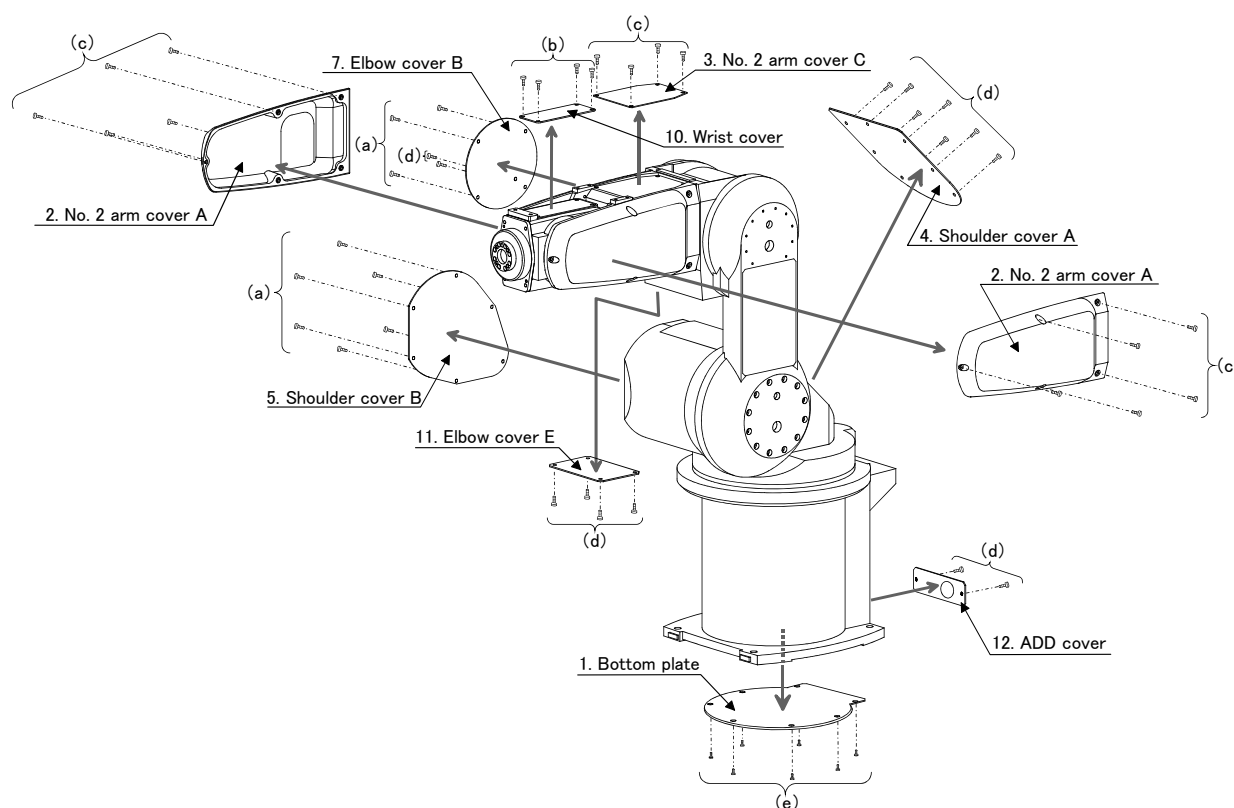
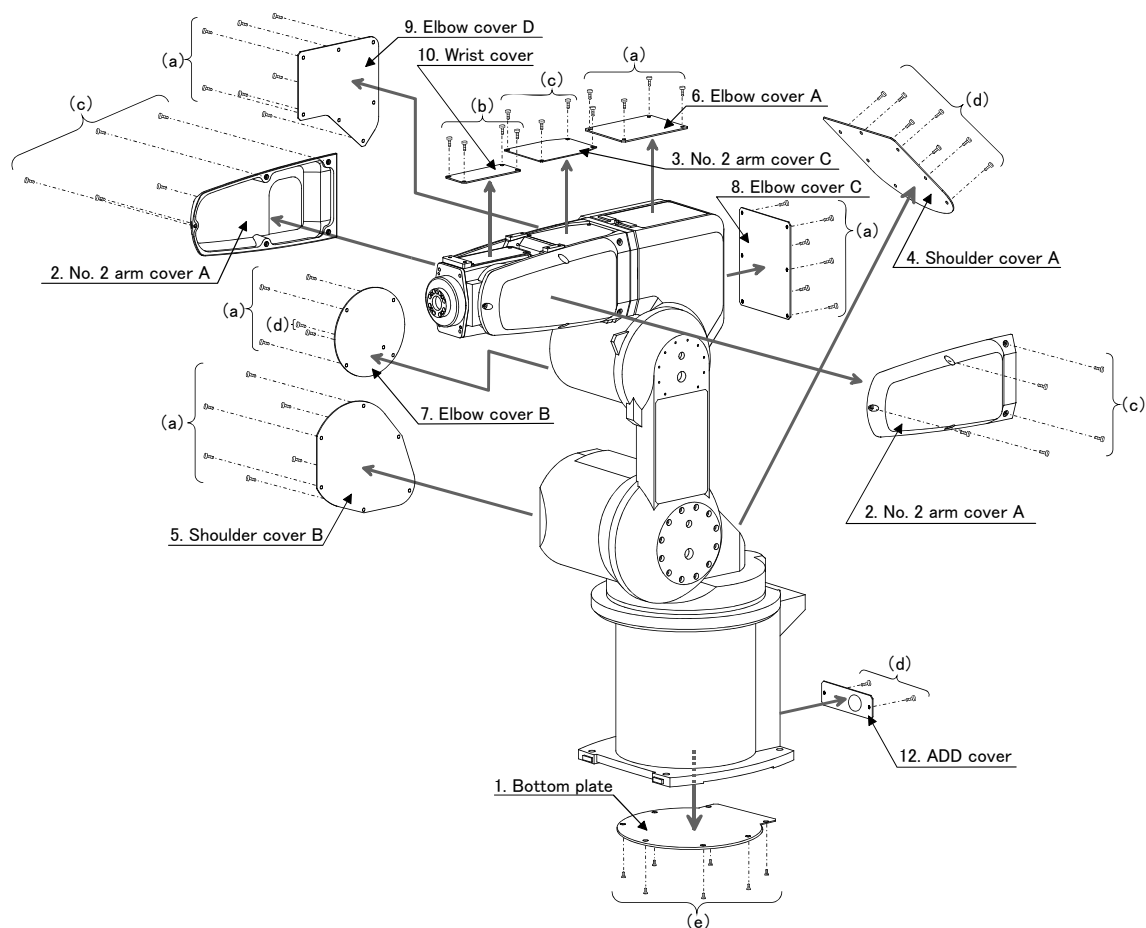

Fig.5-4 : Installing/removing the cover (5-axis type)
Fig.5-5 : Installing/removing the cover (6-axis type)
- (1) Refer to Fig. 5-4 when using the 5-axis type robot arm, and Fig. 5-5 when using the 6-axis type robot arm, and remove the cover.
- (2) The names of the covers are given in Table 5-3, and a list of the cover installation screws is given in Table 5-4.
- (3) There are some covers that may be difficult to remove due to the robot posture. In this case, change the robot posture with jog operation, and then remove the cover.
- (4) When attaching the cover after maintenance and inspection, use the detaching procedure in reverse.
The part Nos. and symbols in Table 5-3 and Table 5-4 correspond to Fig. 5-4 and Fig. 5-5.